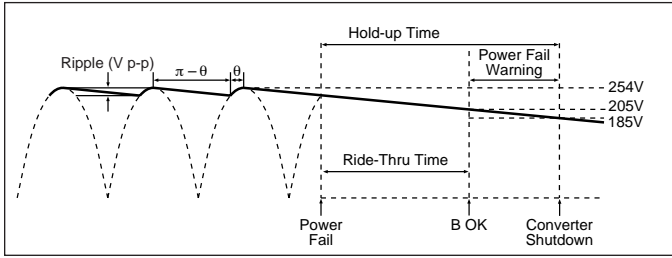
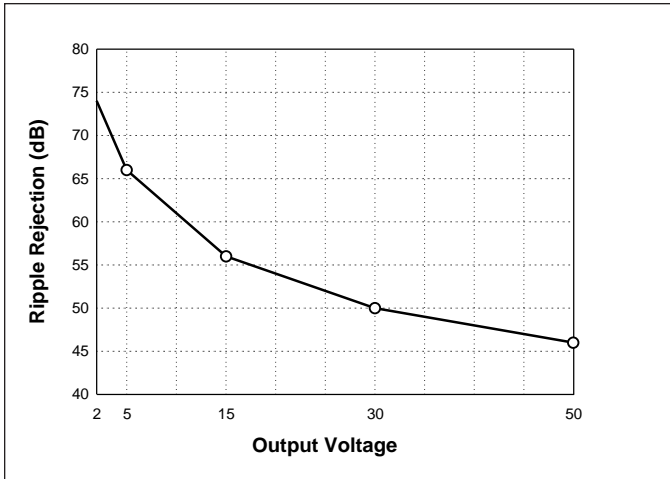

Figure 13—Hold-up time
Figure 17—Converter ripple rejection vs. output voltage
Hold-up Capacitors. Hold-up capacitor values should be determined according to output bus voltage ripple, power fail hold-up time, and ride-through time (see Fig. 13). Many applications require the power supply to maintain output regulation during a momentary power failure of specified duration, i.e., the converters must hold-up or ride through such an event while maintaining undisturbed output voltage regulation. Similarly, many of these same systems require notification of an impending power failure in order to allow time to perform an orderly shutdown.
The power fail warning time (Δt) is defined as the interval between B OK and converter shutdown (EN) as illustrated in Fig. 13. The Bus-OK and Enable thresholds are 205V and 185V, respectively. A simplified relationship between hold-up time, operating power, and bus capacitance is obtained by inserting these constants:
For example, a converter whose output is 15V and nominal input is 300V will provide 56dB ripple rejection, i.e., 10V p-p of input ripple will produce 15mV p-p of output ripple (see Fig. 17). Equation 3 is again used to determine the required capacitance. In this case, V_1 and V_2 are the instantaneous values of bus voltage at the peaks and valleys (see Fig. 13) of the ripple, respectively. The capacitors must hold up the bus voltage for the time interval (Δt) between peaks of the rectified line as given by:
Determining the Ripple on the Output of the DC-DC Converter. Figure 17 is used to determine the ripple rejection of the DC-DC converter and indicates a ripple rejection of approximately 60 dB for a 12V output. Since the ripple on the bus voltage is 12Vac and the ripple rejection of the converter is 60 dB, the output ripple of the converter due to ripple on its input (primarily 120 Hz) will be 12mV p-p. Note that 2nd Generation converters have greater ripple rejection than either VI-200s or VI-J00s.